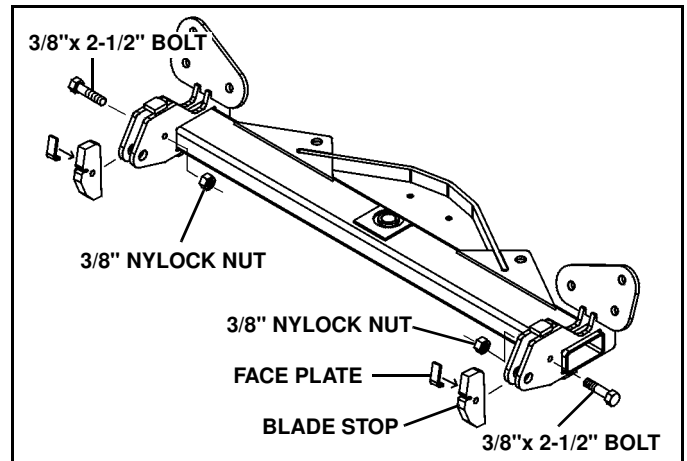

Figure 1-3
2. Slide the metal face plates into the blade stops from the side. Place the stops between the lugs on the swing frame. Secure with 3/8" x 2-1/2" bolts and locking nuts. (See Figure 1-3). Bolts and nuts are in the blade parts bag.